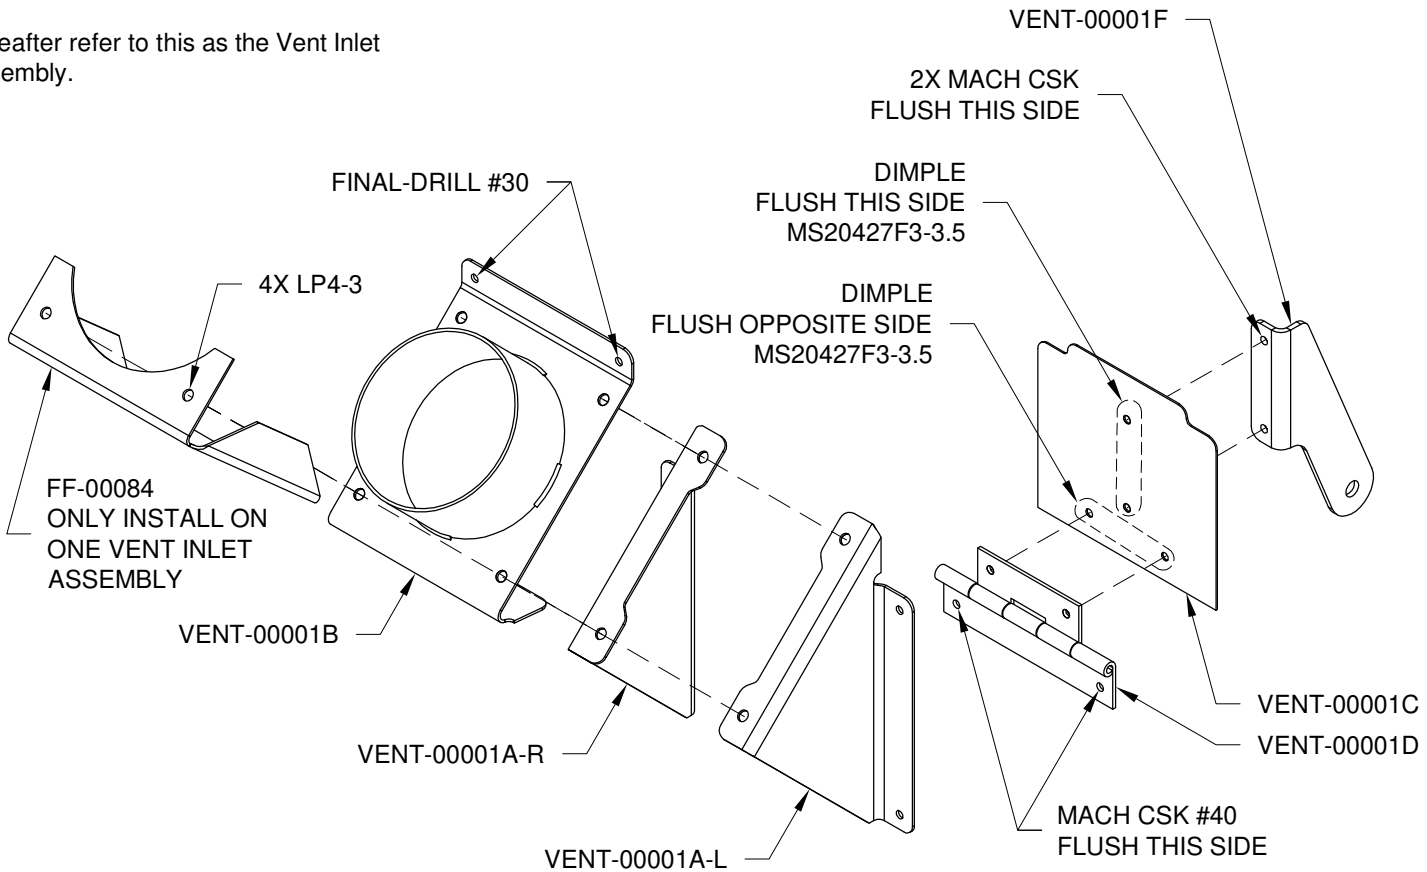

FIGURE 4: VENT DOOR ASSEMBLY AND VENT INLET ASSEMBLY
Step 6: Final-Drill the VENT-00001B as shown in Figure 4.
Step 8: Machine countersink the #40 holes in the VENT-00001D and VENT-00001F as shown in Figure 4.
Step 9: Dimple the VENT-00001C as shown in Figure 4.
Step 10: Rivet the VENT-00001D and VENT-00001F to the VENT-00001C as shown in Figure 4.